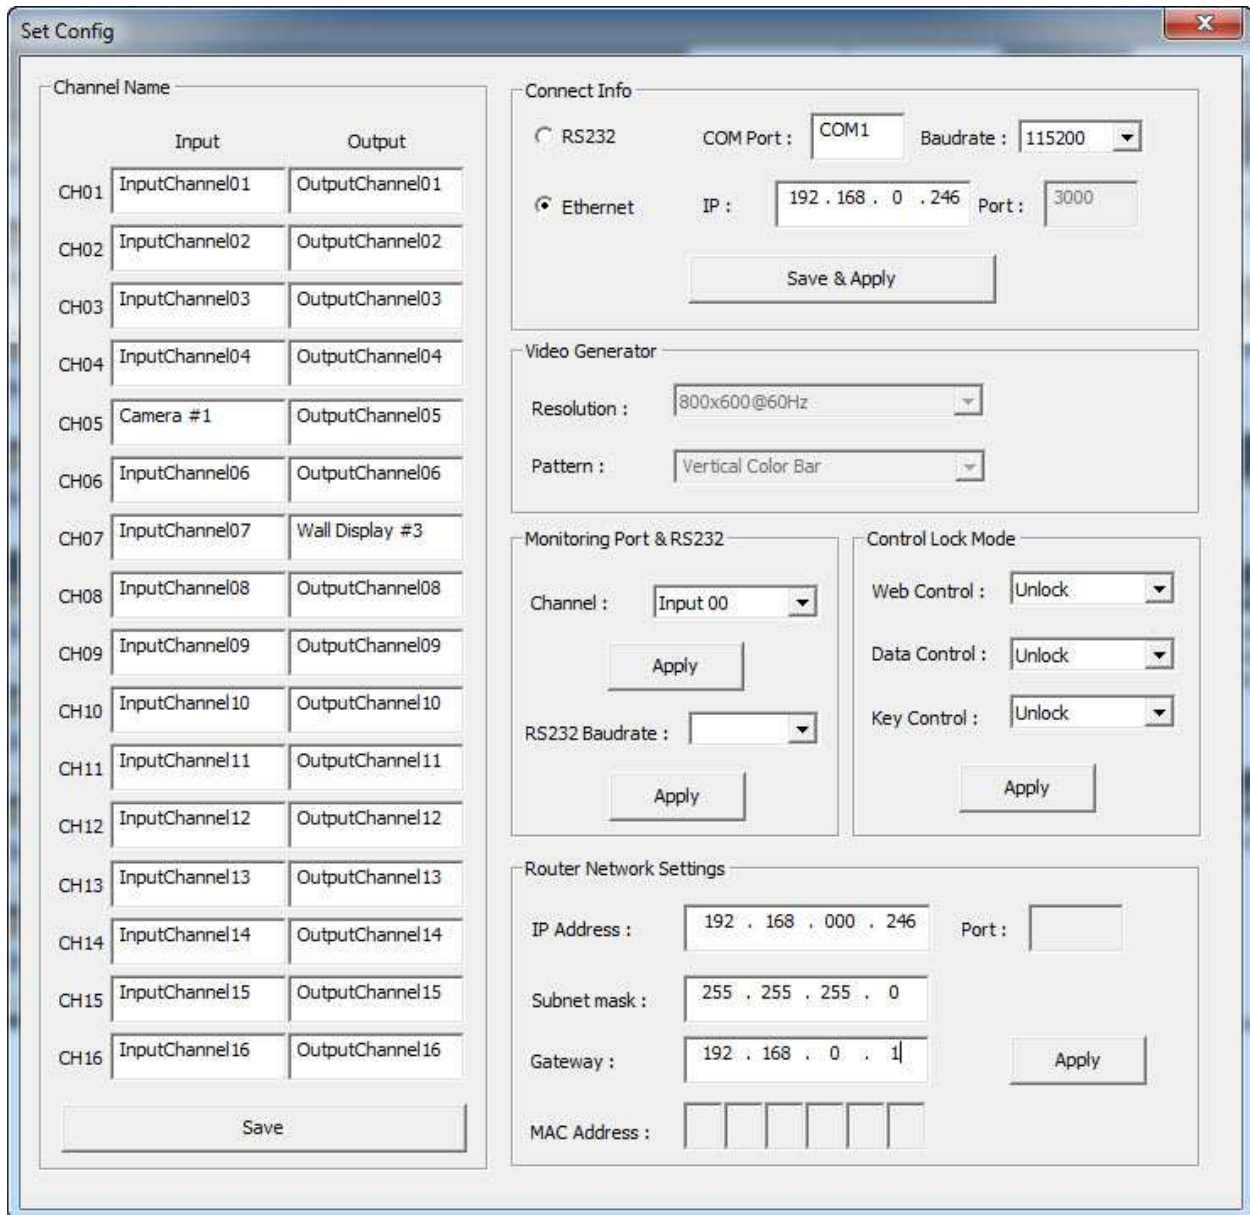

Figure 5-2: Software GUI Set Config window
- On Fig 5.2, The name of **Camera #1** was assigned to Input CH05 and **Wall display #3** for output CH07.